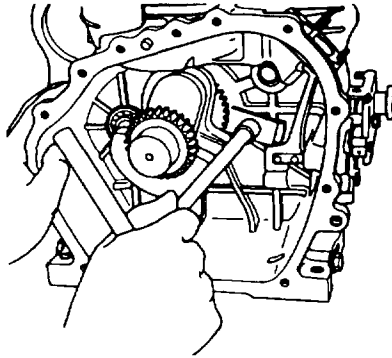

Figure 6-15 Removing the bearing retainer
- 1) Remove the bearing retainer (see Figure 6-15).